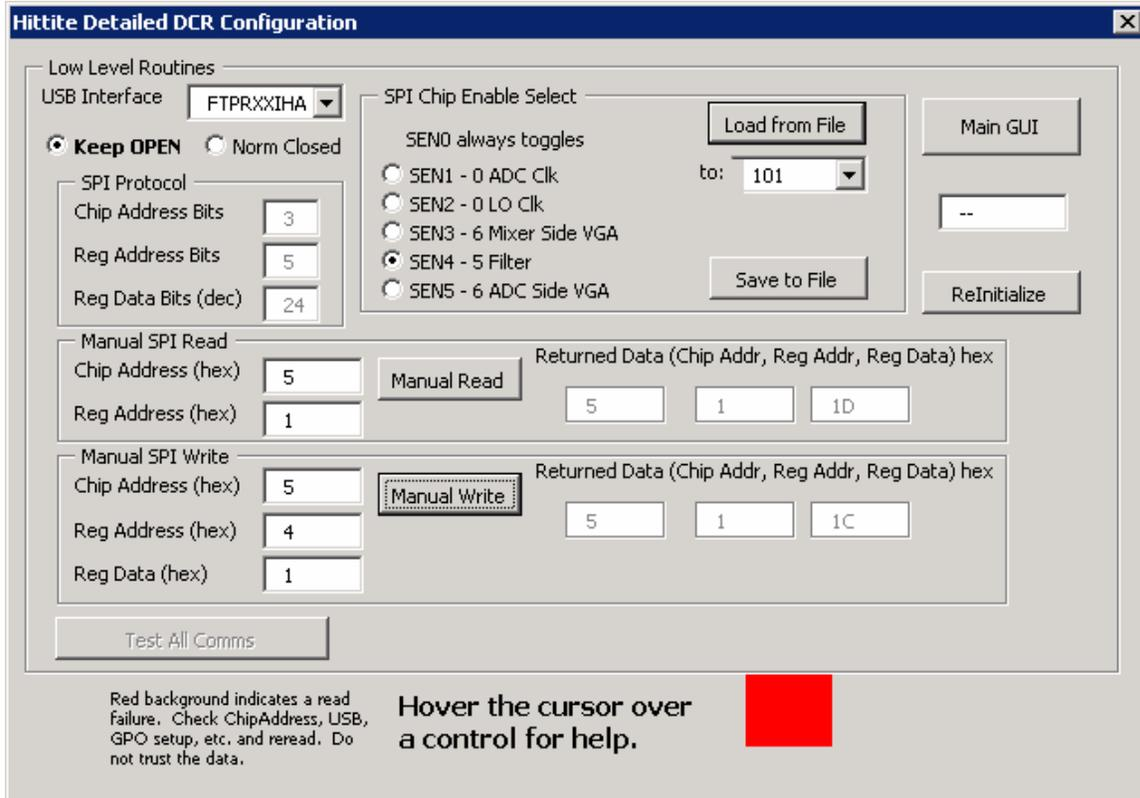

Figure 56. Write Reg04h = 1h of HMC900LP5E to execute calibration routine.
3. Now write the calibration register Reg04h to execute calibration, as shown in Figure 56.